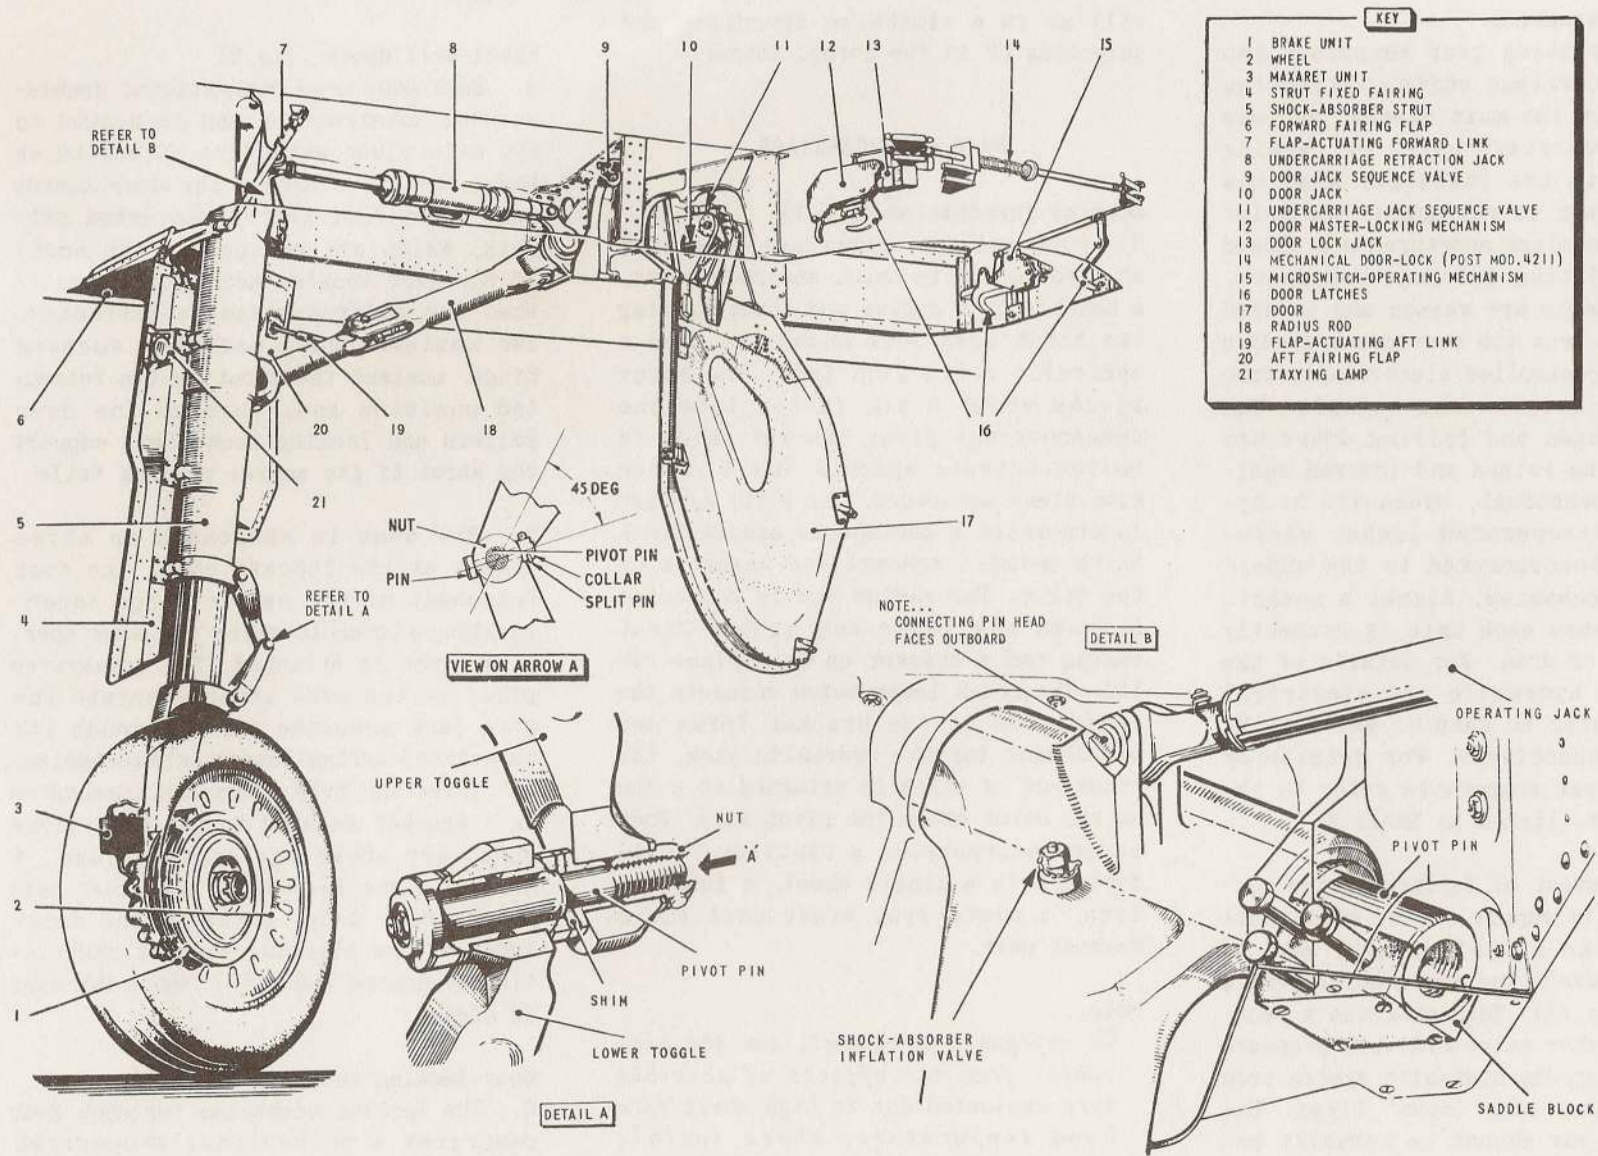

FIG. 1. MAIN UNDERCARRIAGE ASSEMBLY
## General information (fig.1)
## Door-locking mechanism (fig.1)
#### Shock-absorber fairing (fig.1)
13. When an UP selection is made, hydraulic pressure is applied to the radius rod lock jack, and through the retraction jack sequence valve to the retraction jack (fig.1). After the lock is withdrawn the jack begins to extend. Initially the jack body moves aft and rotates the crank lever, which breaks the radius rod and, through the latter, begins to lift the shock-absorber strut. As the strut rises, the jack ram attachment lug at the top approaches its maximum leverage and the extending jack applies sufficient force to raise the strut completely. Final movement of the strut operates the door jack sequence valve (fig.1), diverting hydraulic fluid pressure to the door retraction jack and the master latch jack. The door jack retracts to start closing the door and the initial movement of the latter operates the undercarriage jack sequence valve to block the main jack up line thus imposing a hydraulic lock to maintain the strut in its re-